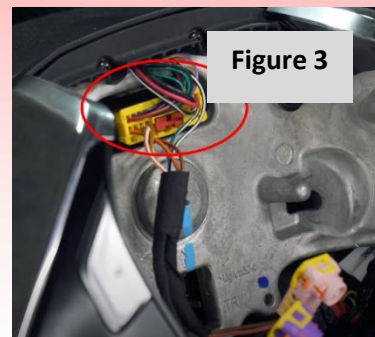

Figure 3
3. Release the rectangular yellow connector at the top of the steering wheel core going into the clockspring/steering column (**Figure 3**). Pull out the red safety tab towards you, followed by pushing upwards on the yellow tab beneath it to free the connector. A screwdriver may need to be used to assist in releasing the connector.
23. Plug in the large yellow rectangular connector from the steering wheel back into the clockspring, making sure to reinsert the red safety tab as well (*Step 3, Figure 3*).